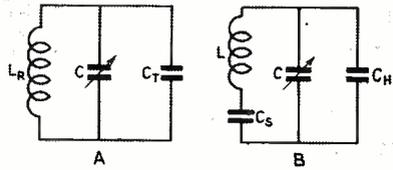

Fig. 1 — Oscillator with shunt trimmer across tuning condenser
Figure 1A shows a typical r-f circuit, where  $C_T$ , is the r-f trimmer and  $C$  the main tuning condenser. Figure 1B shows the conventional oscillator circuit, where  $C_H$ , is the shunt trimmer,  $C_S$ , the series trimmer, and  $C$  the oscillator tuning condenser. For the moment both tuning condensers will be considered as being identical, although this is not a necessary condition. The only thing required to know about  $C$  is its minimum and maximum capacity. This information is supplied by the manufacturer of the gang condenser, or can be readily measured. The condensers  $C$  in Fig. 1 are assumed to vary from zero to maximum capacity. In other words the minimum capacity is considered to be part of the shunt trimmers in both the r-f and oscillator circuits.
Equations (9), (11) and (12) yield all the necessary information for tracking the circuit of Fig. 1.
Fig. 1—Attenuation of short waves generated at the transmitting antenna, T, and picked up at the receiving antenna, R, when the transmission path is over reflecting surface of the earth
"Automatic Radio Relay Systems for Frequencies Above 500 Megacycles" was the title of a paper delivered by J. E. Smith of RCA Communications. The discussion had special reference to television relay systems and the relay setup between Camp Upton on Long Island and New York City was described in some detail. Several relay stations are used here with little degradation in the quality of the signal. Wave propagation as applied to the transmission of 500-Mc signals over a reflecting surface, such as the earth, was discussed and the illustration of Fig. 1 shows a typical arrangement of transmitting and receiving antennas with respect to the earth's surface together with the formula for attenuation over such a path. It was stated that atmospheric noises in this part of the spectrum do not interfere to any considerable degree with the signal, but that thermal noise in the circuits and fluctuation noises do cause interference. In this type of service the speaker said that